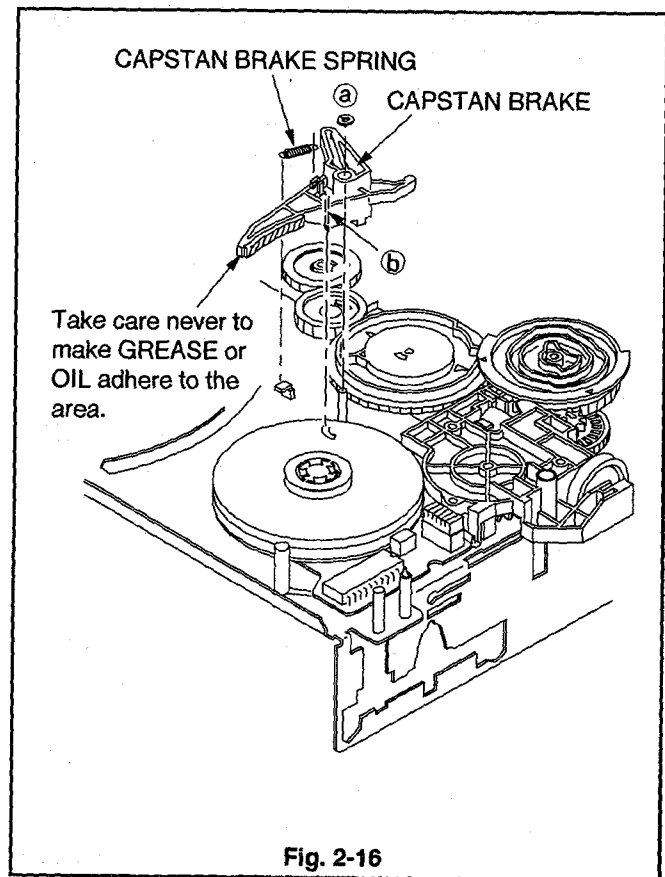

Fig. 2-16
- 1 Remove the CAPSTAN BRAKE SPRING shown in Fig. 2-16.
- 2 Remove the CUT WASHER (a) fastening the CAPSTAN BRAKE shown in Fig. 2-16.
- 3 Unfasten the catch (b) on the surface of the CAPSTAN BRAKE shown in Fig. 2-16 with tweezers, etc. to remove the CAPSTAN BRAKE.
- 1 Install the CAPSTAN BRAKE shown in Fig. 2-16.
Note : Take care never to make GREASE or OIL adhere to the area specified in Fig. 2-16 during installation of the CAPSTAN BRAKE.
- 2 Install the CUT WASHER (a) shown in Fig. 2-16 to fasten the CAPSTAN BRAKE.
- 3 Install the CAPSTAN BRAKE SPRING shown in Fig. 2-16.